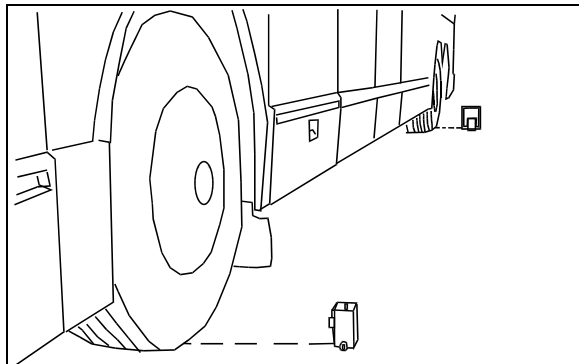

FIGURE 30: INSTALLING CALIBRATION FIXTURES 06497
7. Install a calibration fixture in the axis of front axle wheel and one in the axis of rear axle wheel (Fig.30).